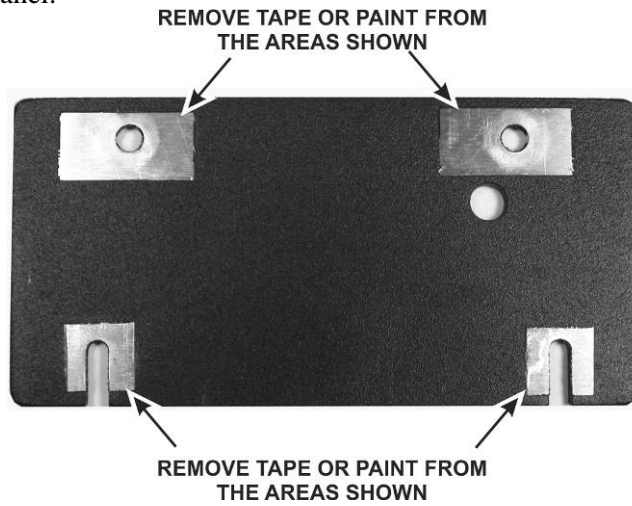

Figure 37. Preparing the Right Side Panel for Mounting.
- Unwrap the right side panel and clean it as needed (see Figure 37). The paint is **not** removed from any areas on the outside of this panel.